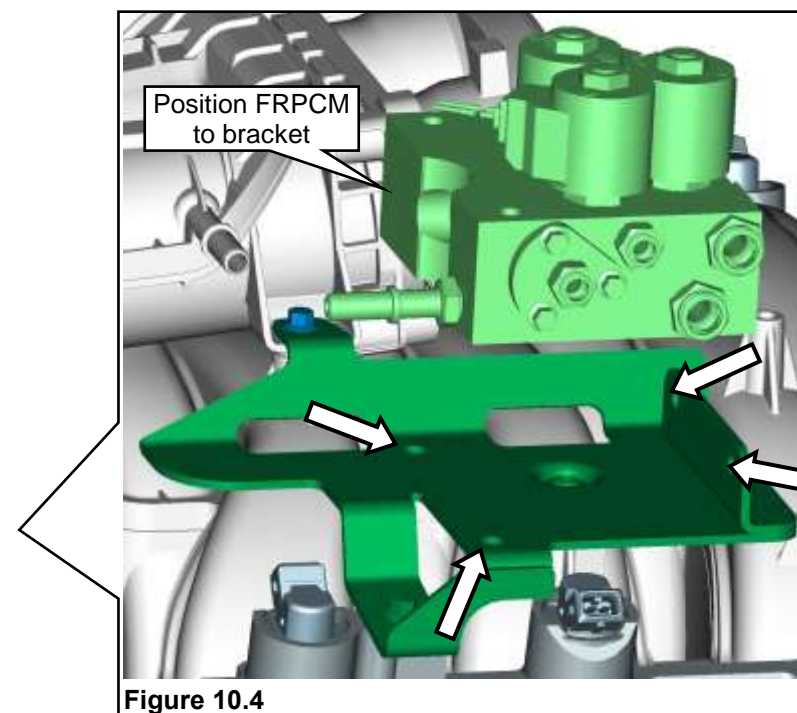

Figure 10.4
3. Position the FRPCM to the bracket and align the four holes. **Figure 10.4.**
5. Attach the fuse box bracket to the SRM bracket and secure with one M6 bolt and one M6 nut. **Figure 10.4.**